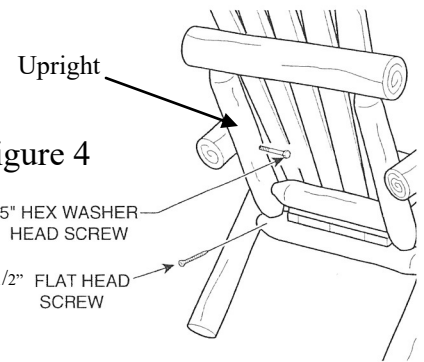

figure 4
STEP 4 Set chair in upright position on a level surface and when legs are in proper position, bring ARM in against UPRIGHT. Tighten the preinstalled lag screws into the pilot hole in the arm with a wrench or socket. Secure doweled joints in place with 2 1/2" screws perpendicular to the doweled ends as shown in figure 4 and figure 6. Repeat on other side.